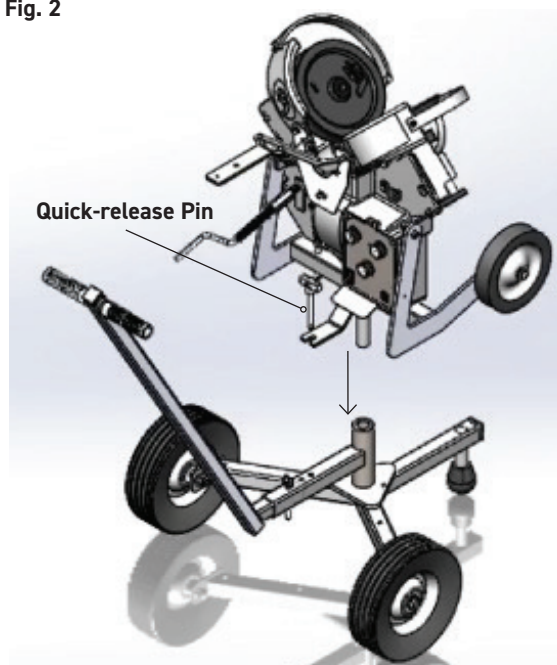

Fig. 3
5. Insert the head into the Fungo Kart base (see fig. 3).
6. Insert the quick release pin into the hole to lock the junior into place (see fig. 3).